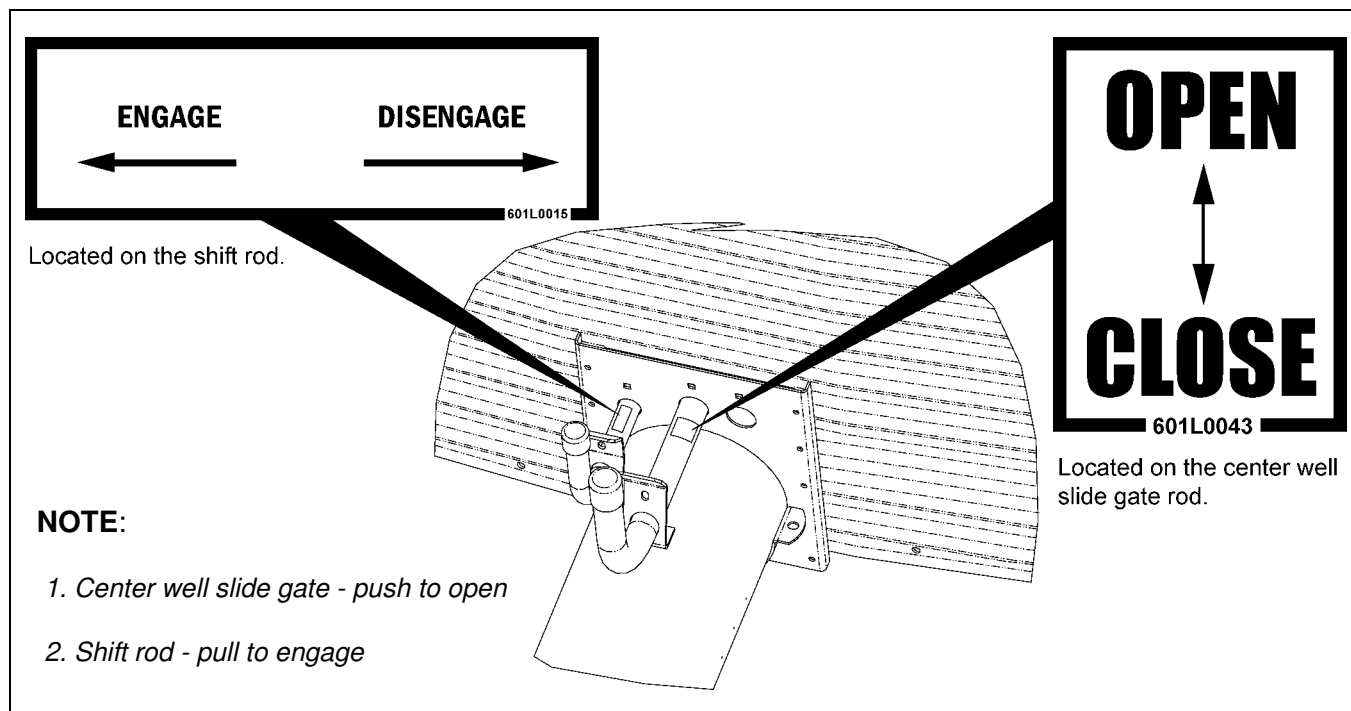
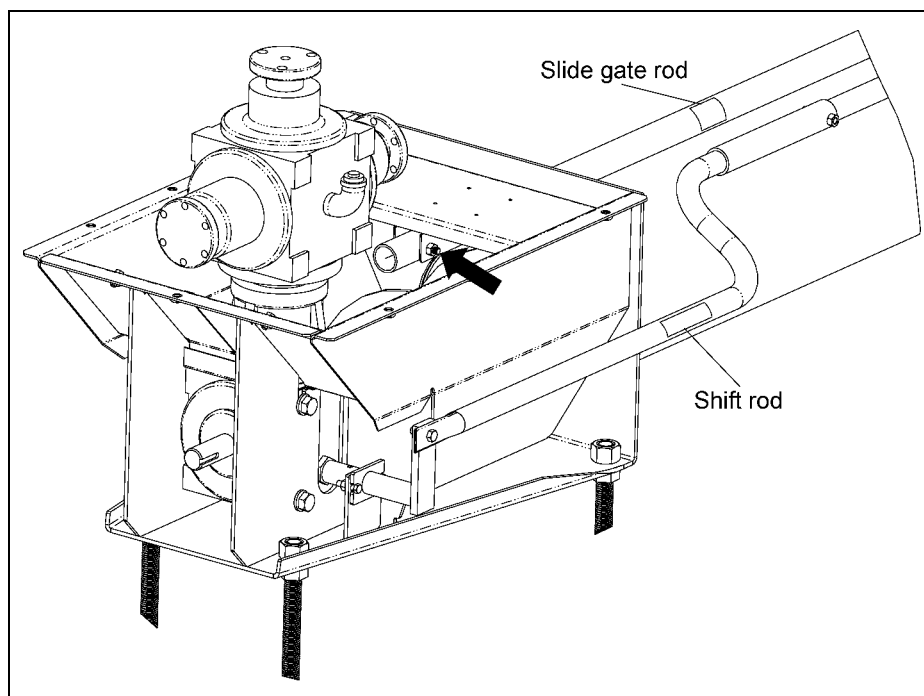
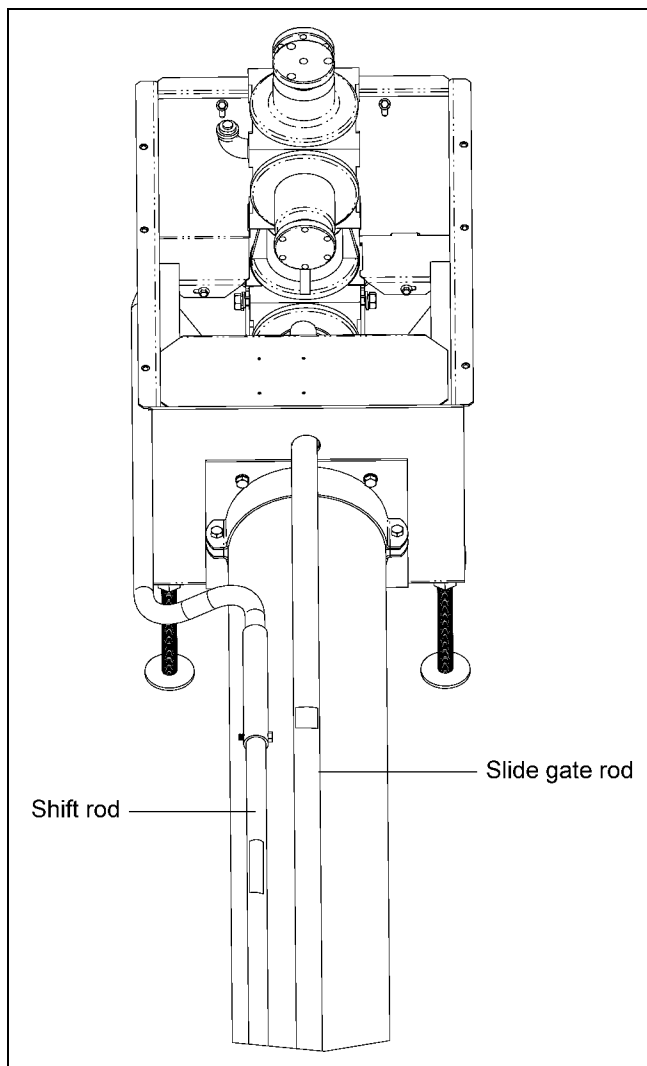

Figure 5O
Figure 5P
Figure 5Q
14. Place the latches onto the slide gate, intermediate sump (if used) and shift lever tubes. Then insert the tubes into the bin wall plate holes, through the support rings on the auger tube. Next, put the slide gate tube through the end of the sump and attach to the slide gate using two (2) 5/16" x 2" hex bolts and lock nuts. Connect the shift lever tube to the offset shift tube with the connecting sleeve using one 5/16" x 1-1/2" grade 5 bolt and lock nut. (See Figure 5O, Figure 5P below and Figure 5Q on Page 24.)